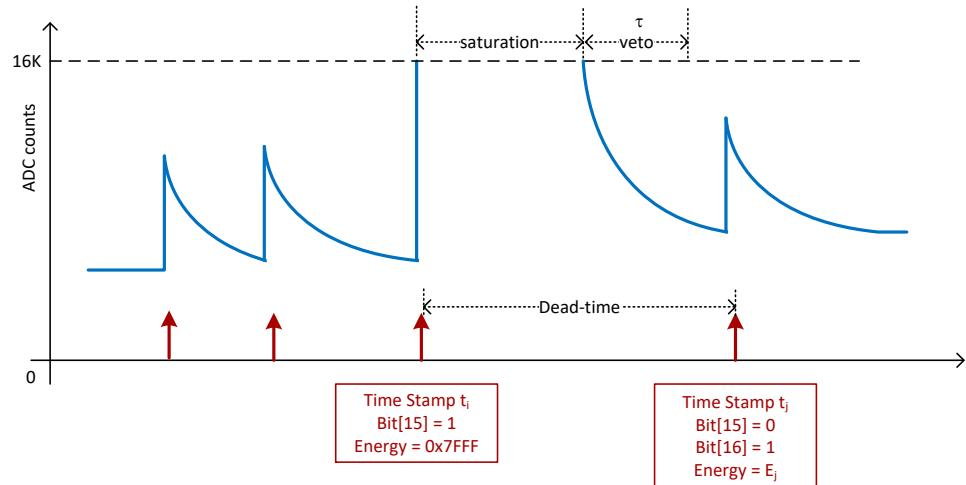

Fig. B.7: Dead-time in case of signal saturation.
3. DEAD_TIME in case of signal saturation (see **Fig. B.7**). If the input signal is over-range (exceeds the input dynamic range of 16k ADC channels) then the acquisition is inhibited. As soon as the input signal is in saturation an event is saved with the corresponding time stamp, and bit[15] set to 1. The energy value is set to the maximum. This event has to be discarded for the energy spectrum, anyway it can be considered for the dead-time calculation. Once the signal is out of saturation a new trigger is inhibited for a time window o equal to the Decay Time. The first event after the saturation is tagged with bit[16] = 1.